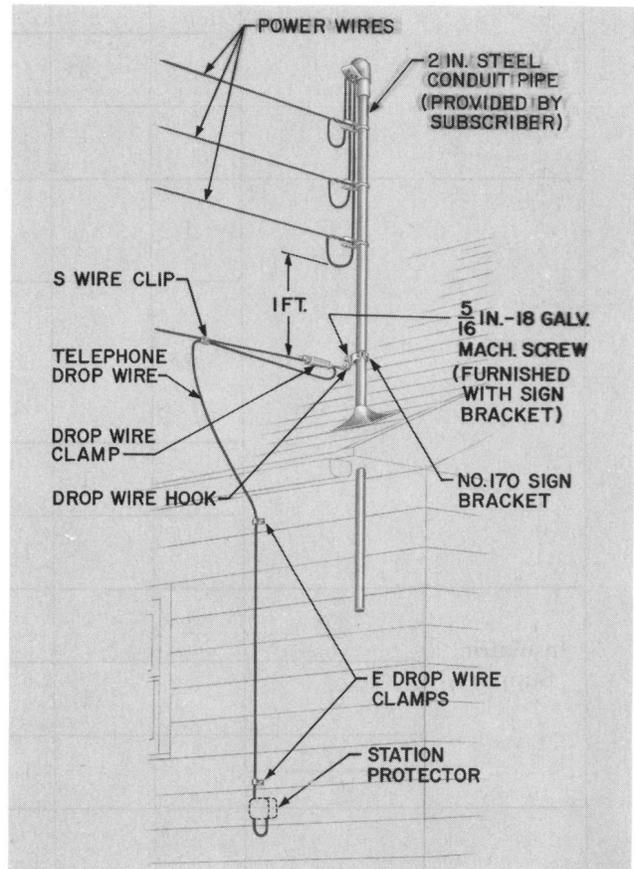

Fig. 16—Drop Wire Attached to Power Fixture
6.01 Figures 16 through 21 show types of clearance fixtures commonly provided by subscribers and the recommended methods of making drop wire attachment. Where other types of fixtures are provided and different methods of drop wire attachments are required, local instructions should be issued.